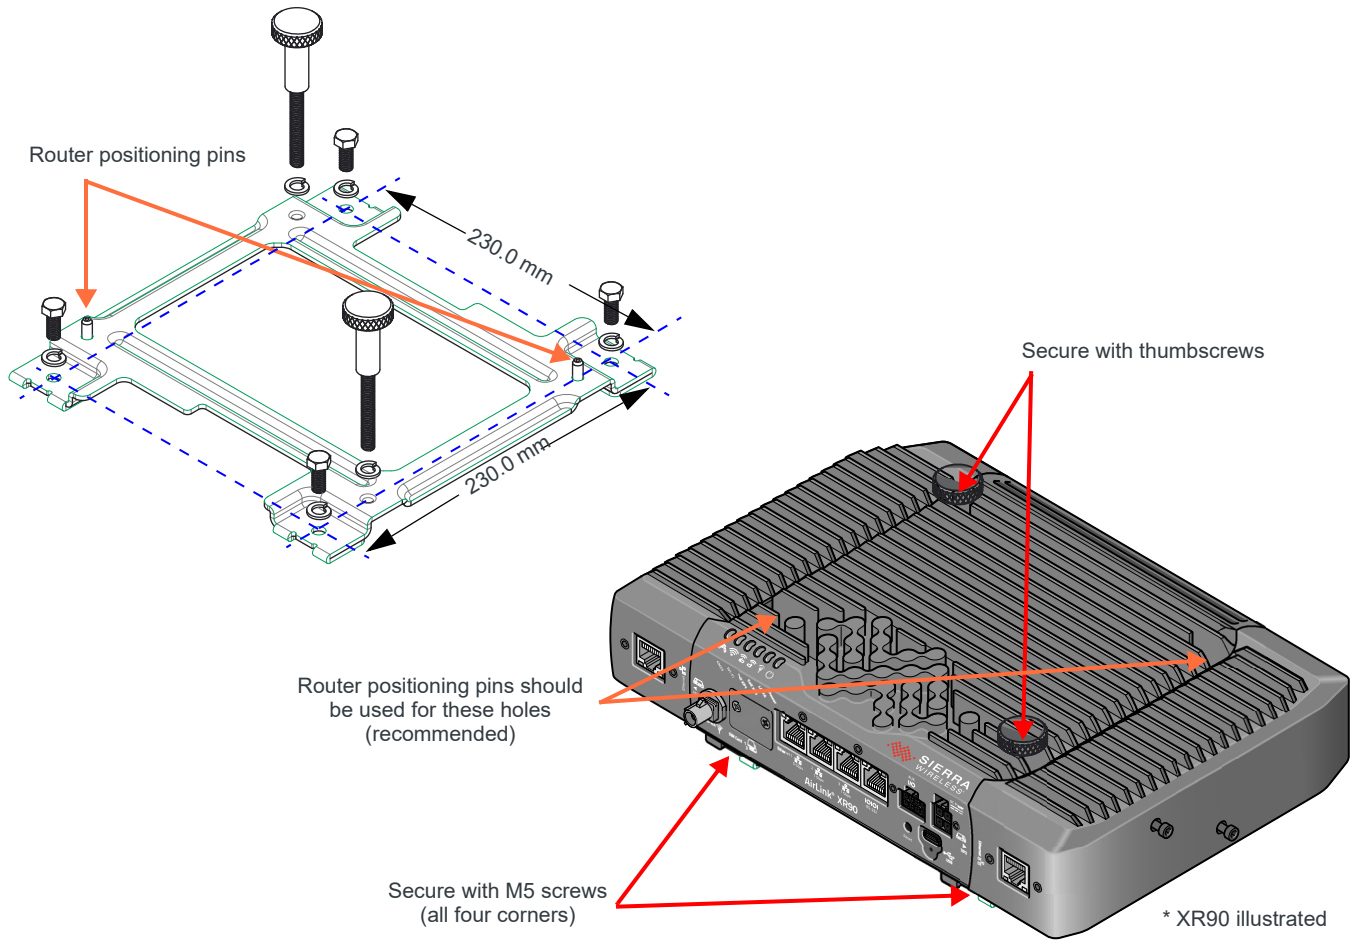

Figure 2-6: XR Series Bracket Mounting Installation Example
3. Position the XR router on the bracket—the bracket’s positioning pins fit into two of the XR router’s mounting holes. For best results, the module should be grounded (see Grounding the Router, below), so use the holes indicated in Figure 2-6 for positioning pins and thumbscrews (one thumbscrew uses the unpainted mounting hole).